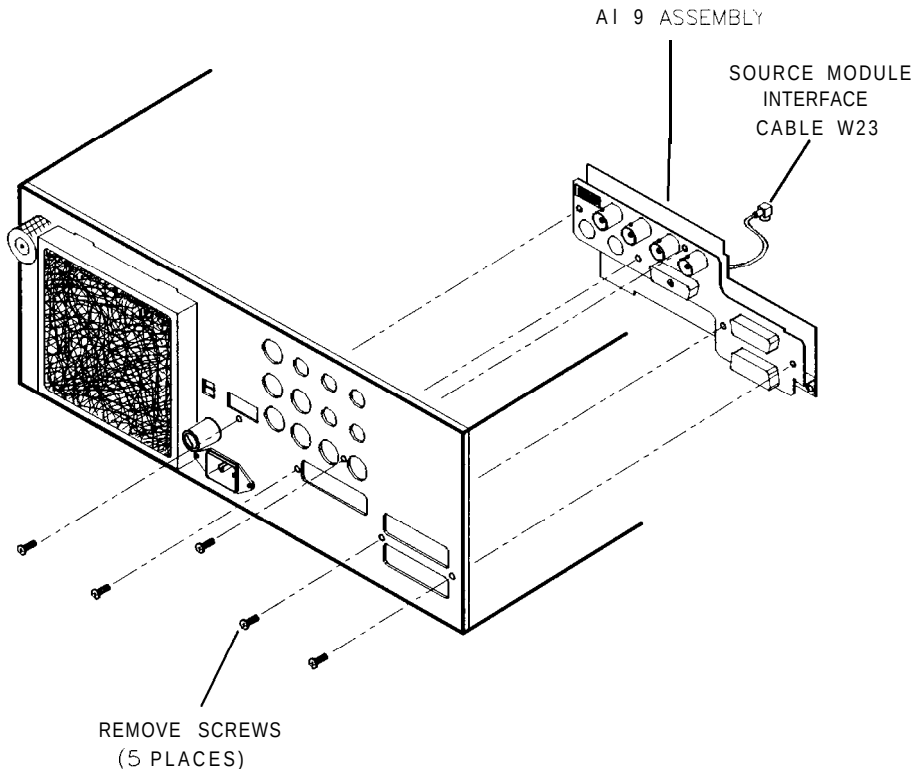

Figure 7-15. A19 Rear Panel Interface Removal
1. Disconnect the source module interface cable W23 from SMB connector A10J3 on the A10 ALC assembly. Refer to Figure 7-15.